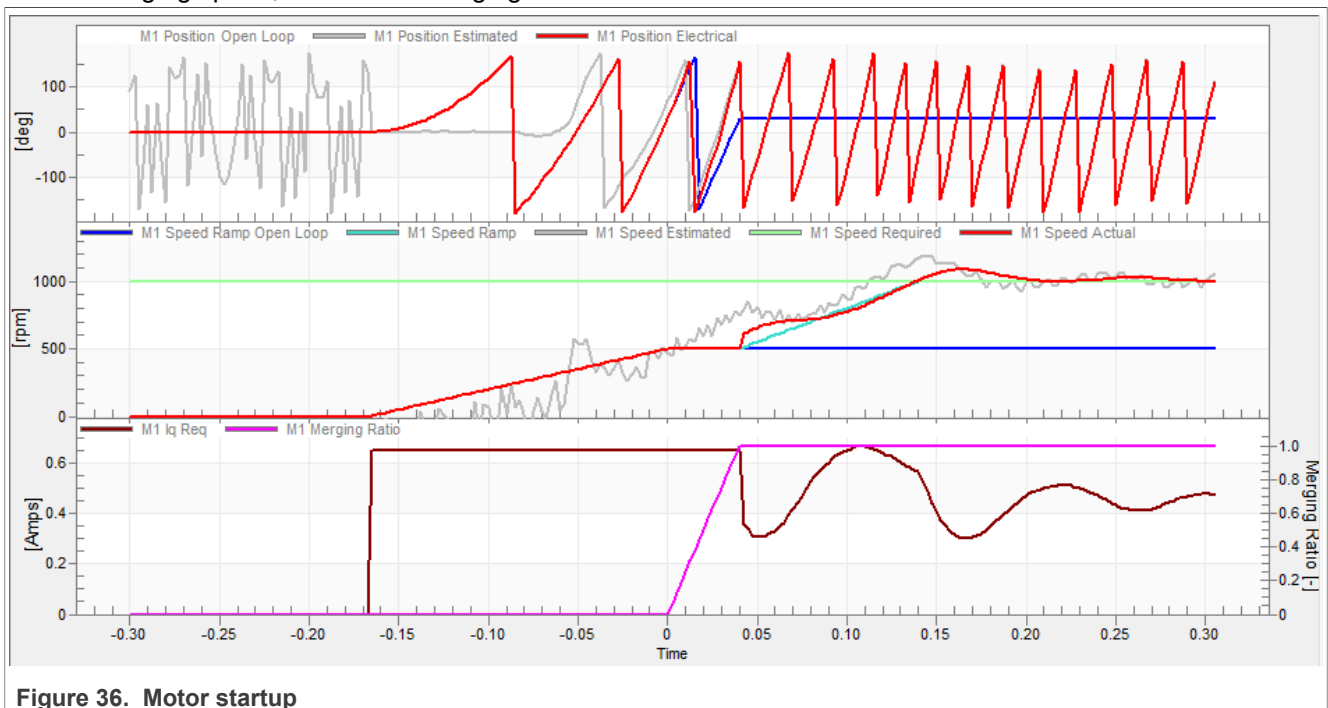

Figure 36. Motor startup
1. The startup process can be tuned by a set of parameters located in the "Sensorless" tab. Two of them (ramp increment and current) are accessible in both tuning modes. The startup tuning can be processed in all control modes besides the scalar control. Setting the optimal values results in a proper motor startup. An example startup state of low-dynamic drives (fans, pumps) is shown in Figure 36.